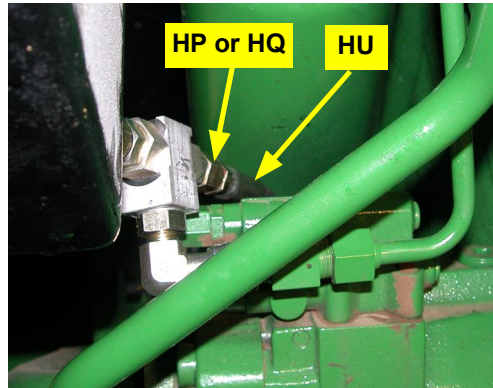

Figure 8c: Load sense hose connected to LS shuttle
- d. Connect the load sense hose **HU** to the load sense shuttle's straight adapter **HP** or elbow adapter **HQ** if fitted (Figure 8c).